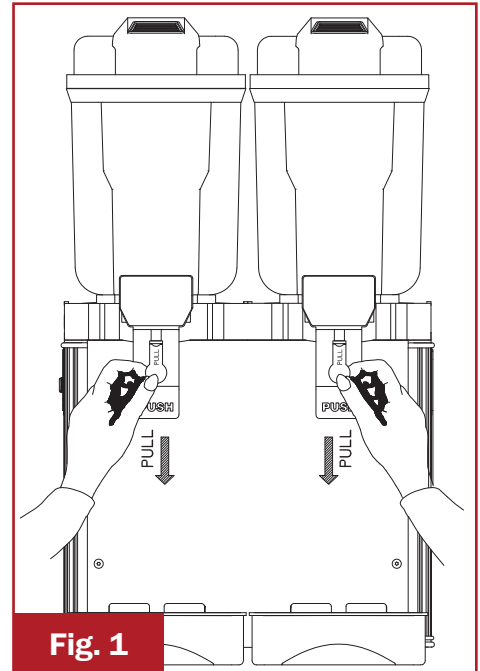

Fig. 1
4. Before operating, remove the green plastic plug(s) from the tap(s). (Fig. 1)